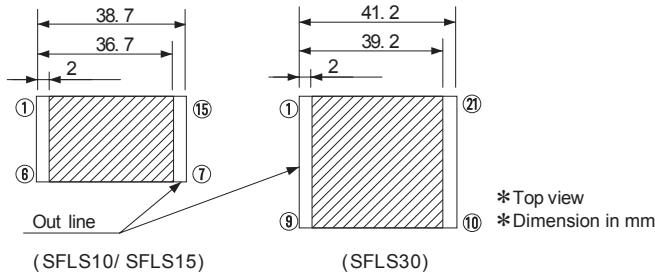

Fig.6.3 Prohibition area of pattern layout
- Avoid placing pattern layout in hatched area in Fig.6.3 to insulate between pattern and power supply.